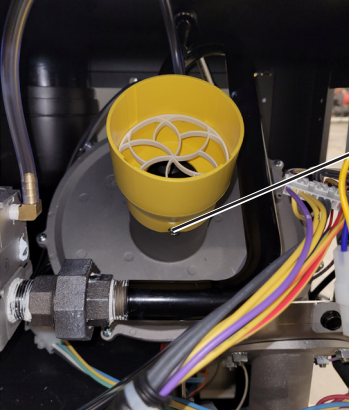

Figure 6.
8. **REPLACE YELLOW AIR ORIFICE WITH NEW BLUE ORIFICE:** Disconnect all the tubing attached to the Yellow air orifice. Use a 5/16" socket wrench or 5/16" ratchet wrench to remove the hex screws from the Yellow air orifice. Discard the Yellow air orifice. See Figure 6.
**Remove tubing attached to air orifice. Use a 5/16" socket wrench or nut driver to remove the two air orifice hex screws securing the Yellow air orifice, see Figure 6.**